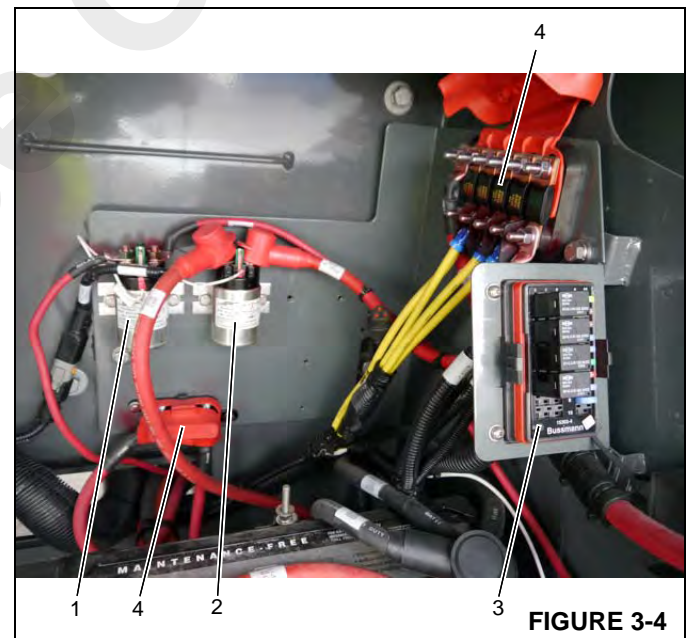

FIGURE 3-4
Fuses are located behind the seat in the cab (1) (Figure 3-3). In the battery box fuse panel (3) (Figure 3-4) and in the battery box (4).
The relays are located at the back of the battery box (Figure 3-4): relay K-301 start relay (1) and relay K-302 grid heater relay (2).